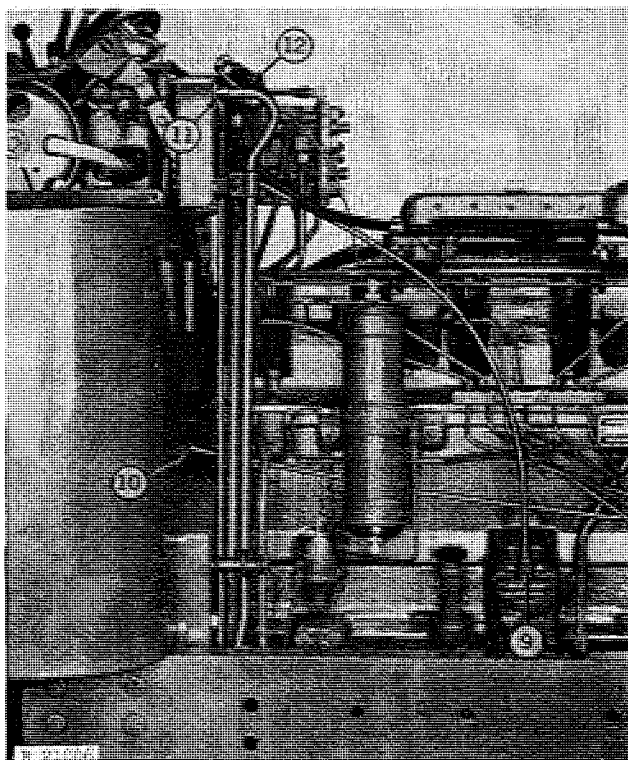

Fig. 11—Separation Procedures on Right-Hand Side
9. Disconnect tachometer cable (Fig. 11).